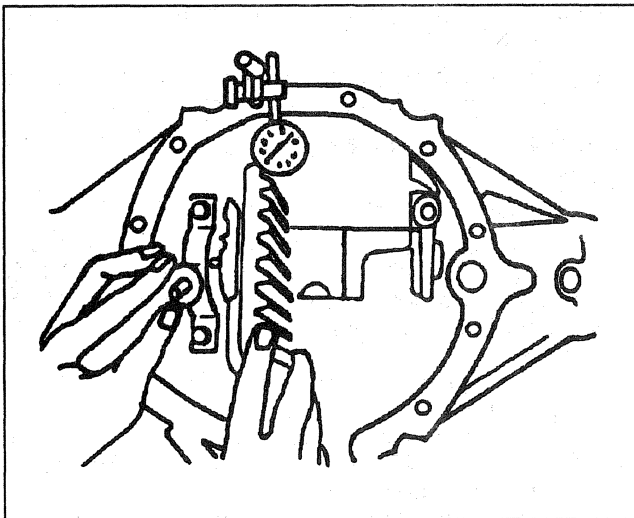

Figure 21—Installing Side Bearing Gaging Tool
4. Insert J 22779 between the axle housing and left bearing cup (Figure 21).